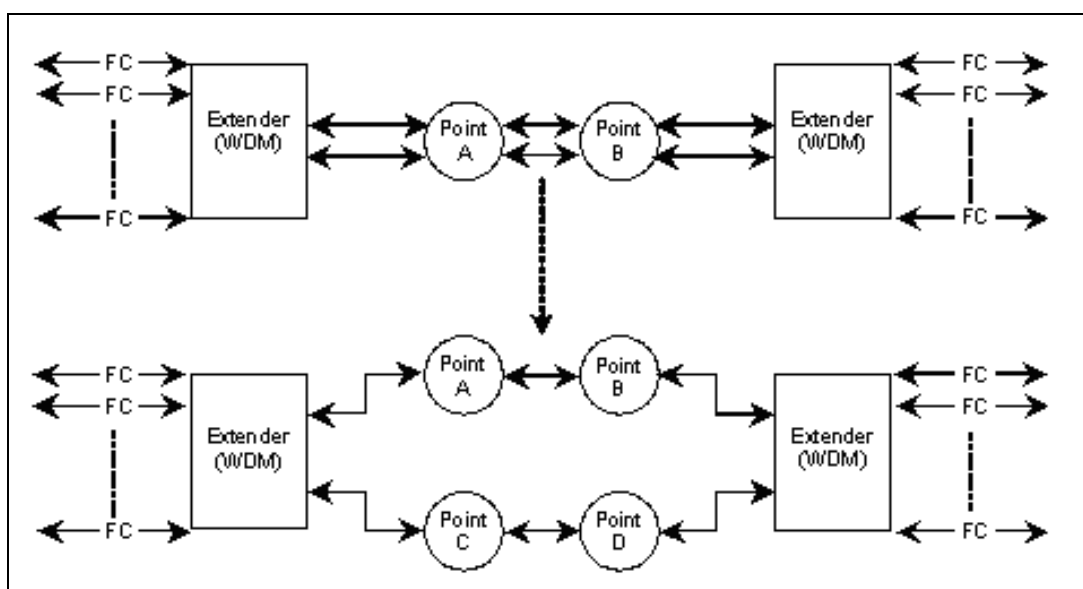

Figure D-10: Dark Fiber failure
- If switching is executed during a dark fibre failure, data transfer must be moved to another path, as shown in Figure D-10.